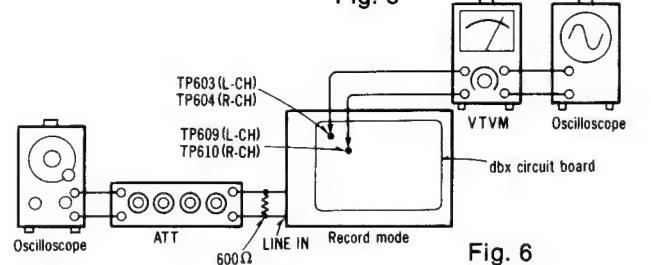

Fig. 6
1. Make the connections as shown in fig. 6, and apply 1kHz -27 dB signal from LINE IN, and set the noise reduction selector to dbx tape position.